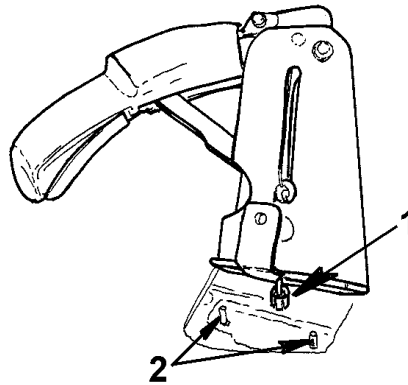

Figure 5: Parking Brake Cable Access
6. Lift the parking brake lever from the base plate and position it on its side to gain access to the parking brake cable (Figure 5).